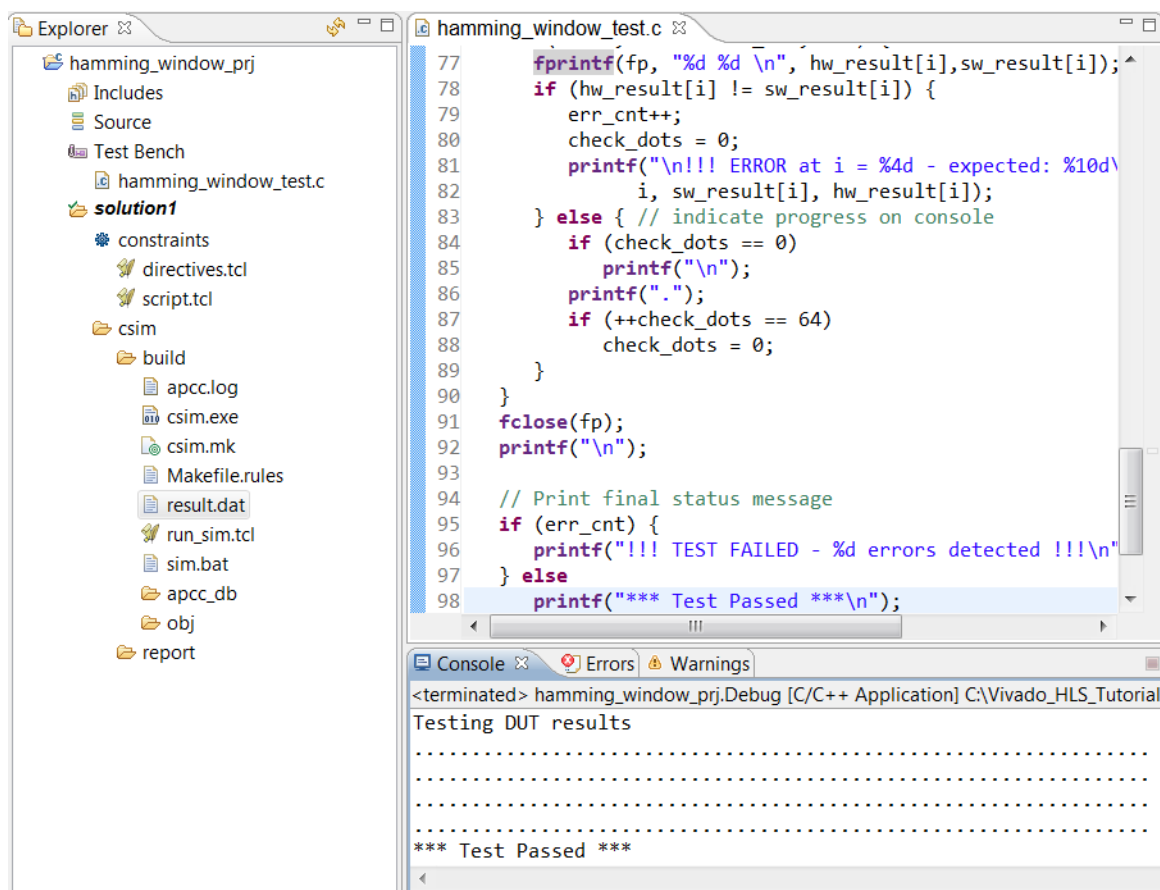

Figure 3-5: C Simulation Results
As shown in Figure 3-5, the following actions occur when C simulation executes:
- The C simulation executes in the solution subdirectory `csim`. You can find any output from the C simulation in the build folder, which is the location at which you can see the output file `result.dat` written by the `fprintf` command highlighted in Figure 3-5.